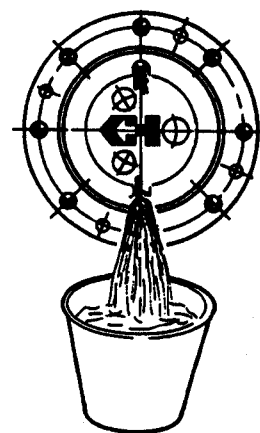

Figure 3.
7. Move the machine until the plug is lined up as shown in Figure 3. Clean area around the axle hub drain/fill plug. Remove the plug and drain oil into a suitable container.